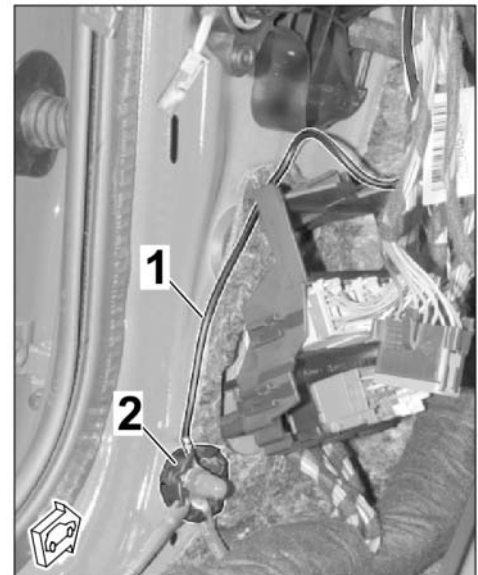

Figure 16
3.2.6 Route BK; 0.5² line (terminal 31) to ground pin MB21 or MB22, shorten it and install it on ground pin using cable ring eyelet A6. ⇒ *Figure 16*